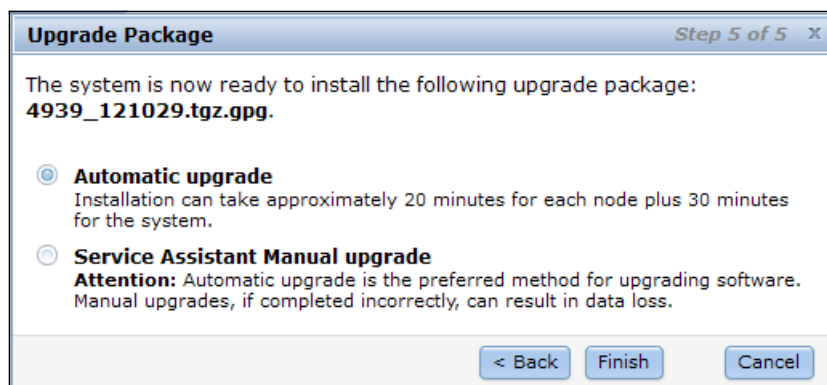

Figure 13-16 Step 5 of 5 Start the upgrade
10. Click Next to continue the upgrade. Select Automatic upgrade and click OK, as shown in Figure 13-16 on page 546.